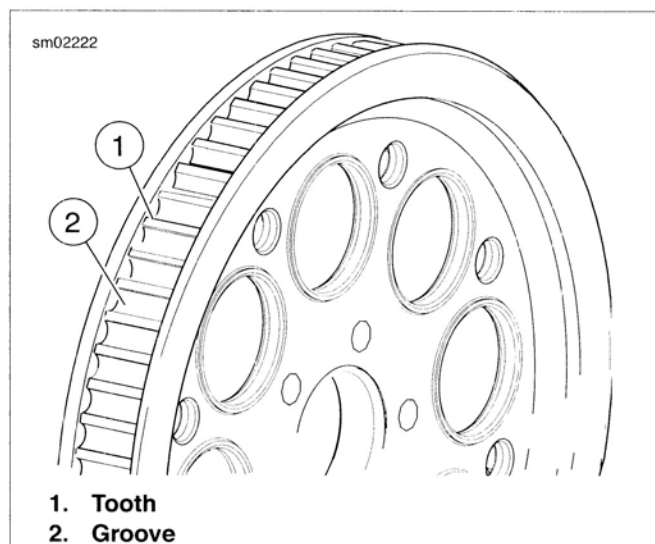

Figure 1-22. Rear Sprocket
1. See Figure 1-22. Inspect each tooth (1) of rear sprocket for:
2. To check if chrome plating has worn off, drag a scribe or sharp knife point across the bottom of a groove (2) (between two teeth) with medium pressure.